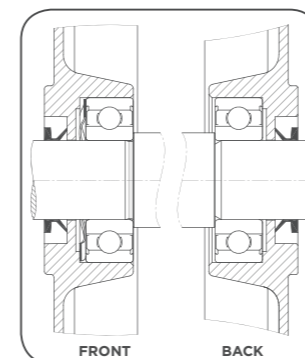
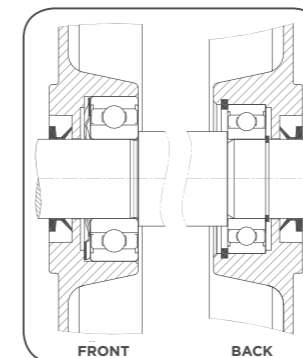

Figure 10: No fixed bearing application
Figure 11: There is a fixed bearing application
Deep groove ball bearings with sealed on both sides (ZZ) are used in frame types 160-355 (Figure 11) and frame types 56-132 (Figure 10).
In some cases, for some applications in frame types 56-132, a structure like Figure 11 can be developed to prevent axial movement of the shaft. Rubber dust seals (V-ring) are placed on the front and rear covers.